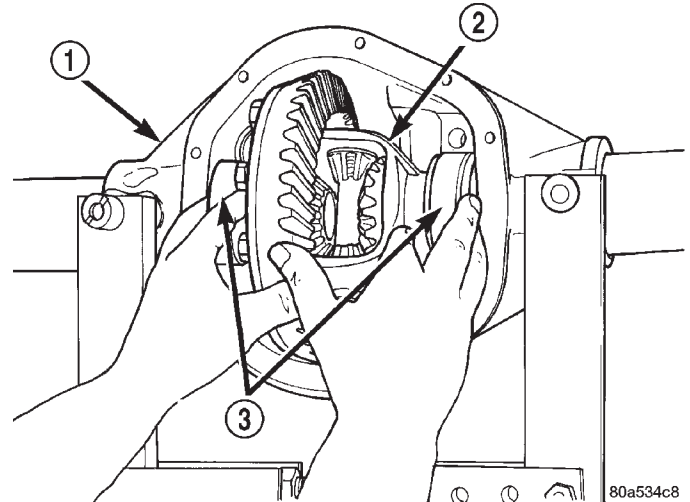
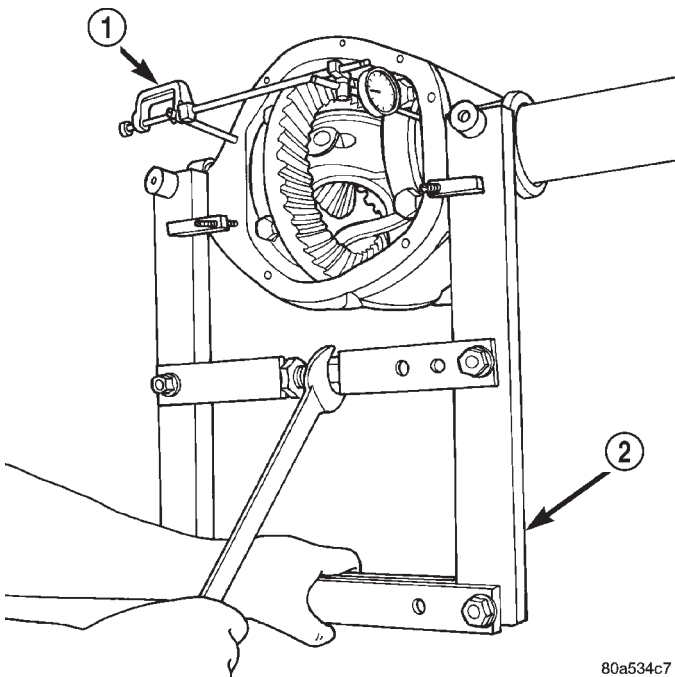
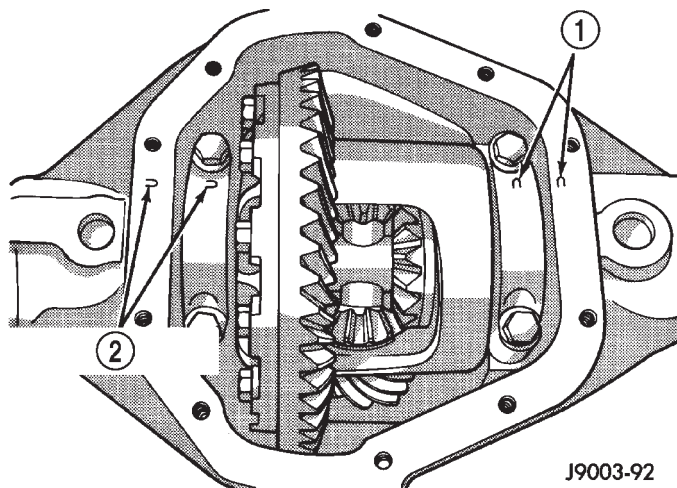

Fig. 27 Differential Case Removal
Fig. 26 Spread Axle Housing
Fig. 29 Differential Bearing Cap Reference Letters
- (9) Spread the housing enough to remove the differential case from the housing. Measure the distance with the dial indicator (Fig. 26).
- (10) Remove the dial indicator.
- (11) While holding the differential case in position, remove the differential bearing cap bolts and caps.
- (12) Remove the differential from the housing. Ensure that the differential bearing cups remain in position on the differential bearings (Fig. 27).
- (13) Mark or tag the differential bearing cups to indicate which side of the differential they were removed from.
(3) Spread the housing enough to install the case in the housing. Measure the distance with the dial indicator (Fig. 26).
(4) Remove the dial indicator.
(5) Install differential case in the housing. Ensure that the differential bearing cups remain in position on the differential bearings and that the preload shims remain between the face of the bearing cup and the housing. Tap the differential case to ensure the bearings cups and shims are fully seated in the housing.
(6) Install the bearing caps at their original locations (Fig. 29).
(7) Loosely install differential bearing cap bolts.
(8) Remove axle housing spreader.